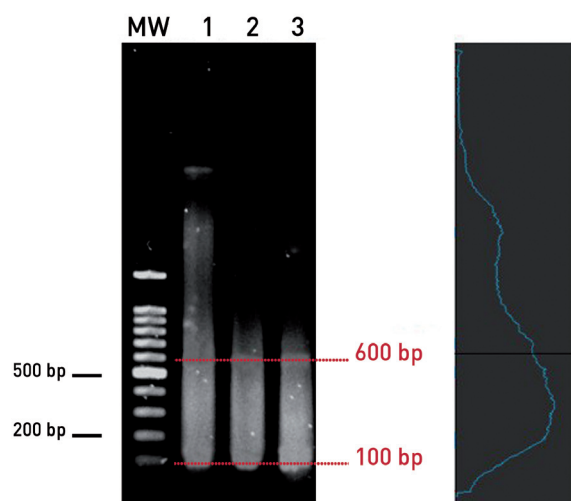

Figure 2: Efficient chromatin shearing with the Bioruptor® PLUS using small sonication volumes (50 μ l)
- From 50 – 100 µl: 0.5/0.65 ml tube holder for Bioruptor® Standard, Bioruptor® Plus & Bioruptor® NGS (Cat. No. UCD-pack 0.5) and the corresponding shearing tubes (Cat. No. WA-005-0500) (Figure 2).